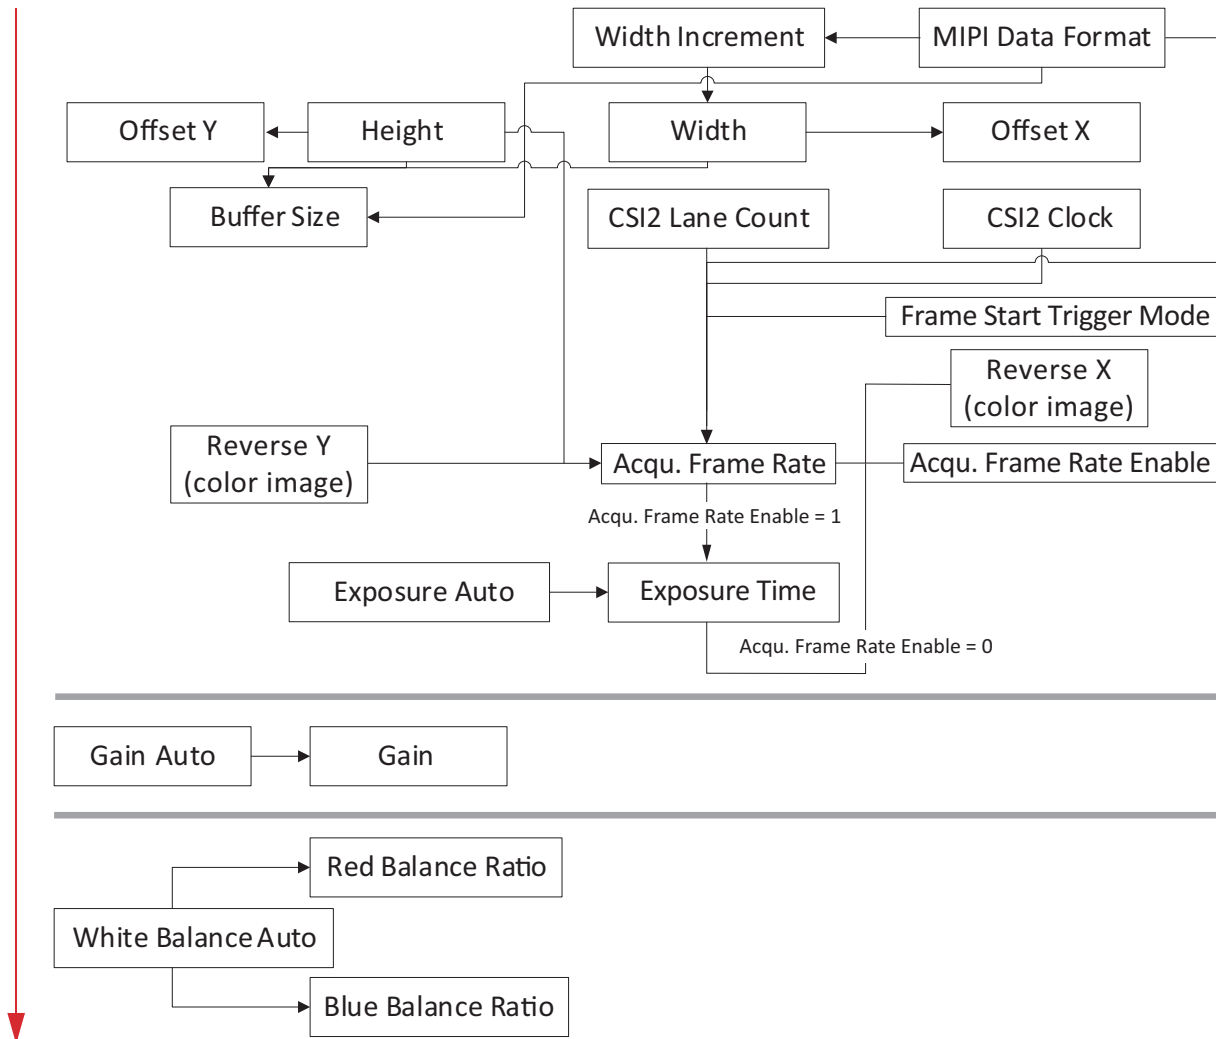

Figure 68: Interdependencies between controls
The conversion between time and clock cycles affects control values. Controls for pixel format, bandwidth, cropping (ROI), and exposure time are related to each other. Changing values for one control can change values for another control. For example, frame rates can be reduced when MIPI Data Format is changed subsequently. Figure 68 shows the interdependencies.
- To avoid readjustments, apply settings in the order shown in Figure 68.